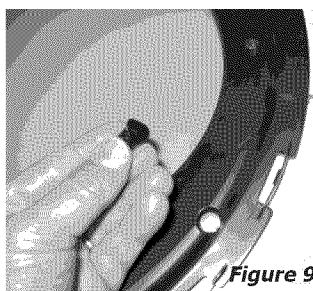

Figure 9
- 10 Remove two transition ring plugs and reinstall on previous handle side. Figures 9 and 10)